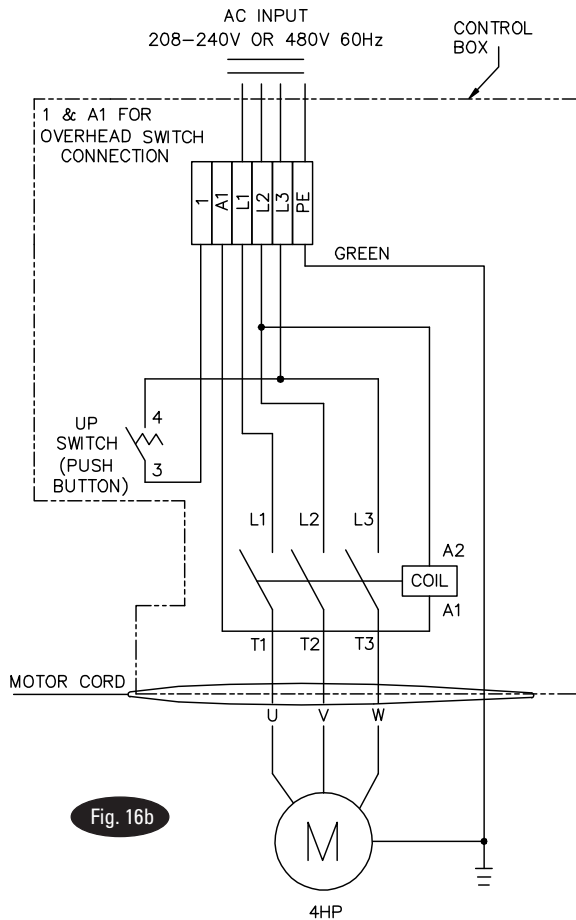

Fig. 16b
**IMPORTANT:** Use separate circuit for each power unit. Protect each circuit with time delay fuse or circuit breaker. For single phase 208-230V, use 20 amp fuse. For single phase 4HP motor use 30 amp fuse. Three phase 208-240V, use 20 amp fuse. For three phase 400V and above, use 10 amp fuse. For wiring see Fig. 15, Fig. 16, and Fig.16b. All wiring must comply with NEC and all local electrical codes.
**16. Overhead switch:** Check overhead switch assembly to assure that switch bar is depressing switch plunger sufficiently to actuate the switch. The overhead switch is wired normally open, see Fig. 15, Fig. 16, and Fig. 16b. Lift will not operate until weight of switch bar is depressing switch plunger. Verify that Power Unit stops working when switch bar is raised, and restarts when the bar is released.